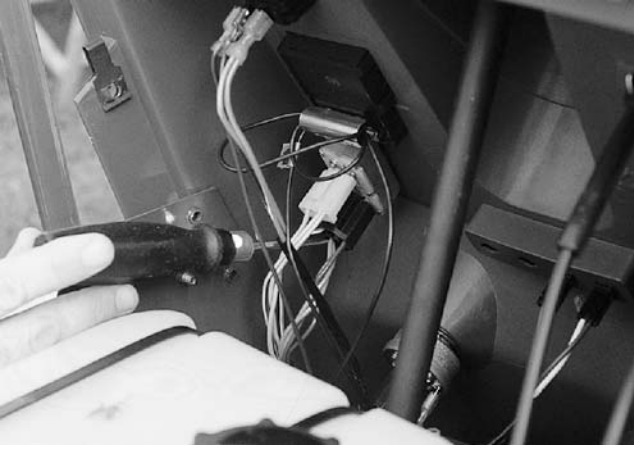

Figure 3-35.
2. If there is no voltage, check for voltage at the red wire at the PTO switch. If no voltage, check for voltage at the ignition switch. See Figure 3-35.